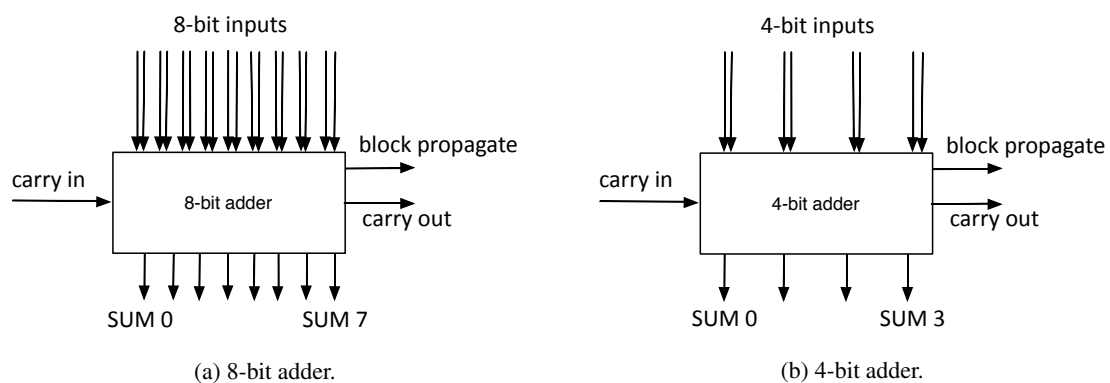

Figure 11.1: Two adders. In (a) is an 8-bit adder and in (b) a 4-bit adder.
You have designed an 8-bit adder circuit with eight SUM outputs, one carry output and one block-propagate output, as shown in Figure 11.1 (a). The propagation delays expressed in unit delays are shown in Table 11.1. You have now been asked to design a 32-bit adder with as short a propagation delay as possible. Available to you are AO, OA, AND and OR gates which each have a delay of 1 unit delay.
- c) What if you also had designed a similar 4-bit adder, as shown in Figure 11.1 (b), with propagation delays given in the last column of are shown in Table 11.1. Would it be better to use the 4-bit adder rather than the 8-bit adder in your 32-bit adder? Motivate by drawing a diagram and calculating the delay. (2 p)